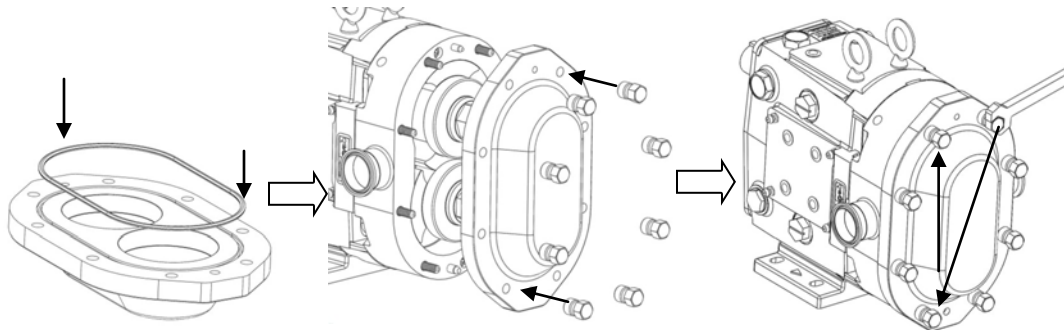

Figure 11: Cover Assembly
8) Install a new cover o-ring and slide the cover over the studs making sure that the dowels in the body are aligned with the correct dowel holes in the cover (Figure 11). Visually inspect to ensure that the cover o-ring remained in place. Turn the cover nuts (clockwise) by hand and fully tighten them using the appropriate wrench. Tighten the rotor nuts in an opposing manner, as seen on Figure 11, so that the cover is evenly tightened to the body.